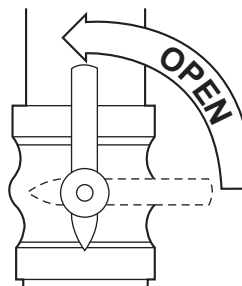

Fig. 14 – Open Valve
- Open the external manual gas valve (see Fig. 14).